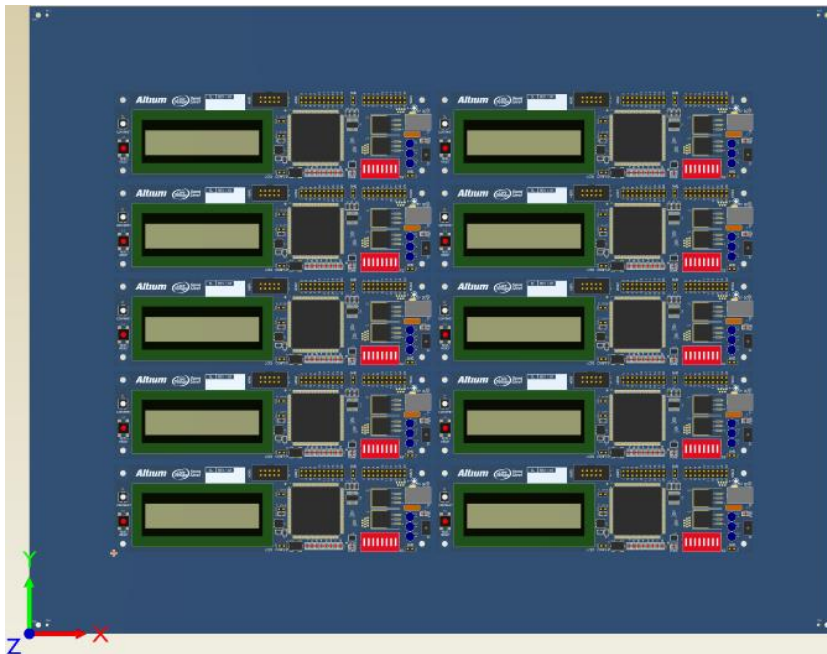

Figure 5. 3D view of the panel
10. Switch to the 3D view of the PCB by hitting the **3** key. Note the one solid PCB with ten instances of the 15L1 Xilinx Spartan-11E PQ208.PcbDoc is shown in Figure 5.